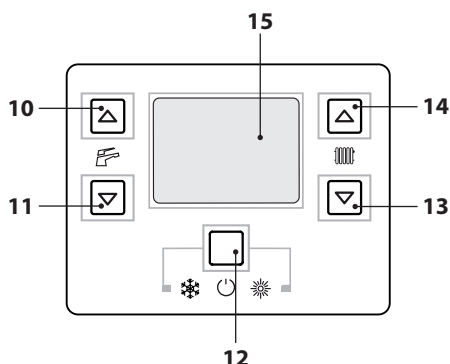

Figure 2.5
- Press key 12 for 2 seconds until the symbol  appears on the display (Figure 2.5).
The heating delivery temperature of the hot water can be adjusted using keys 13 (decrease) and 14 (increase) (Figure 2.5) between a minimum of approx. 38°C and a maximum of approx. 85°C. The first time one of those keys is pressed, the "set" value is displayed. The second time it is
If the ambient temperature is not comfortable, you can increase or decrease the heating system delivery temperature by  $\pm 15^{\circ}\text{C}$  with the keys 13 (decrease) and 14 (increase) (Figure 2.5).
The domestic hot water temperature can be adjusted using keys 10 (decrease) and 11 (increase) (Figure 2.5) between a minimum of approx.  $35^{\circ}\text{C}$  and a maximum of approx.  $60^{\circ}\text{C}$ . The first time one of those keys is pressed, the "set" value is displayed. The second time it is pressed makes it possible to modify it.